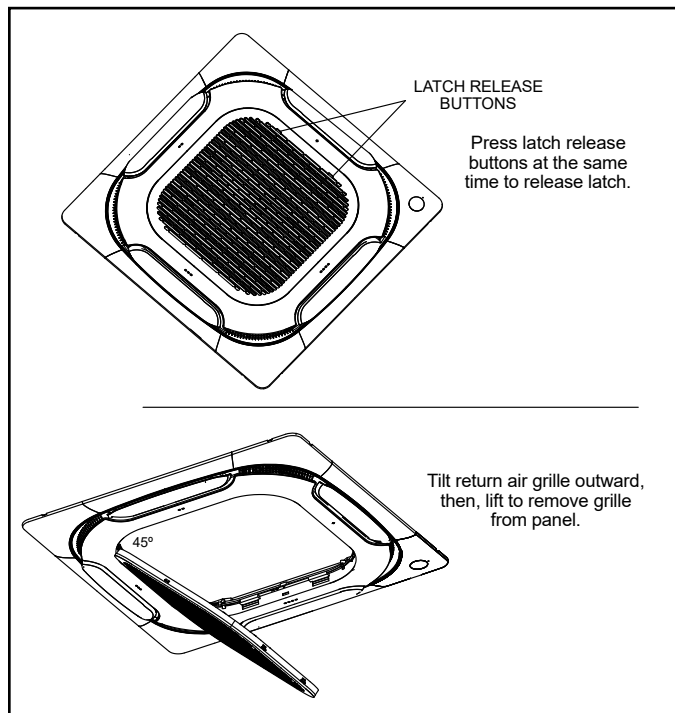

Figure 4. Remove Return Air Grille
2. Press the two grille latch release buttons at the same time to release the grille. See Figure 4. Tilt the return air grille outward at a 45° angle and lift the grille away from the panel. Carefully place the return air grille off to the side.